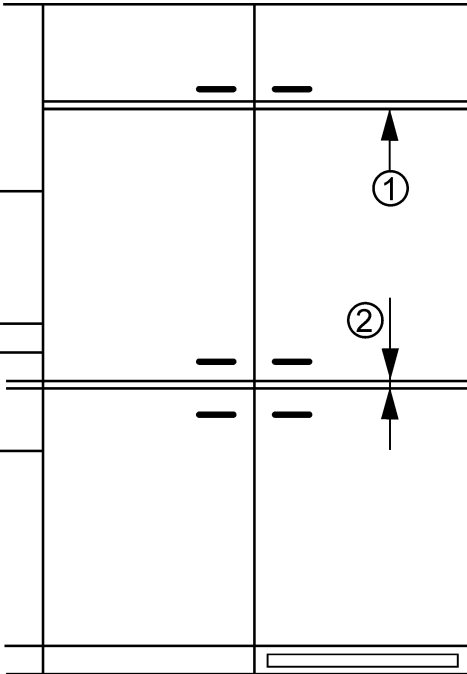

Fig. 5
- The top edge of the upper door *Fig. 5 (1)* and lower door *Fig. 5 (2)* should be even with the doors of adjoining cabinet(s), if any.
- The position of the joint between the kitchen cabinet doors must be level with the position of the joint *Fig. 5 (2)* between the appliance doors.